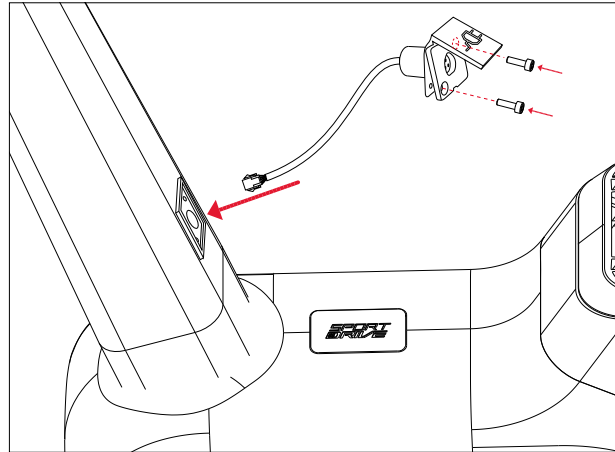

Figure 4.35 Charging connector assembly
1. Route the charging connector cables through the opening in the frame (Fig. 4.35).
2. Mount the charging connector to the frame using two M3 x 9.5 mm fasteners (Fig. 4.35). Tighten the fasteners to 0,7Nm.